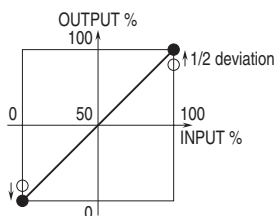

Fig. 9
5) With 100% input, adjust the other half of the deviation with Span adjustment in order to get 100% output. See Figure 9.